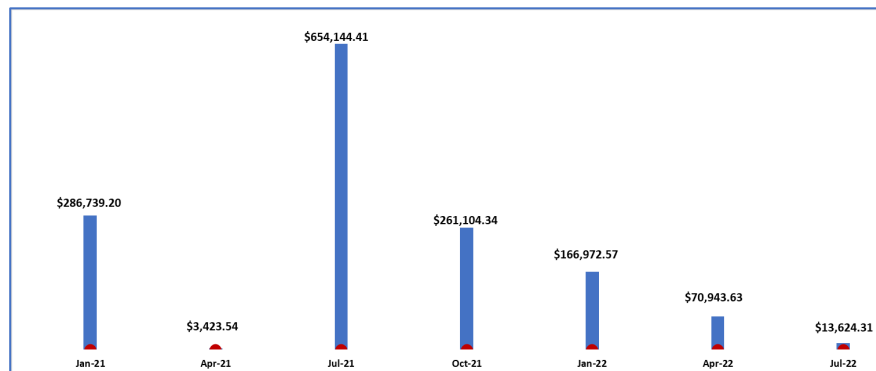

Figure 12.1
**Figure 12.1** shows the time phased budget in both tabular and graphical forms, we can see the highest cost is in July 2020 Quarter due to the procurement of the RMS System.